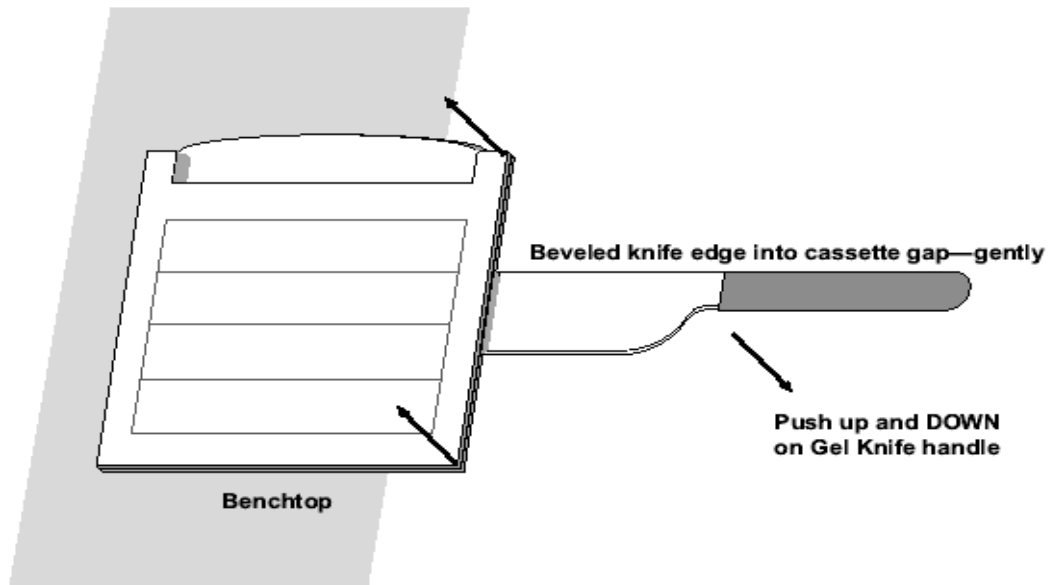

Figure 1: Opening a Gel Cassette
- 9.1. **Figure 1:** Diagram of Opening gel cassette.